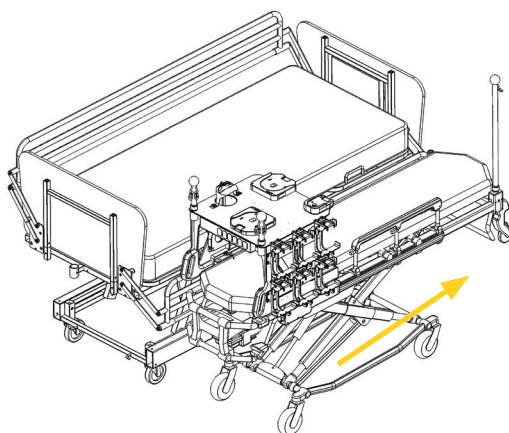

Figure 10: Mobile structure position after lateral transfer
10. Once the lateral transfer is complete, grab the mobile structure handles, then push the mobile structure towards the patient head end until it locks (Figure 10).